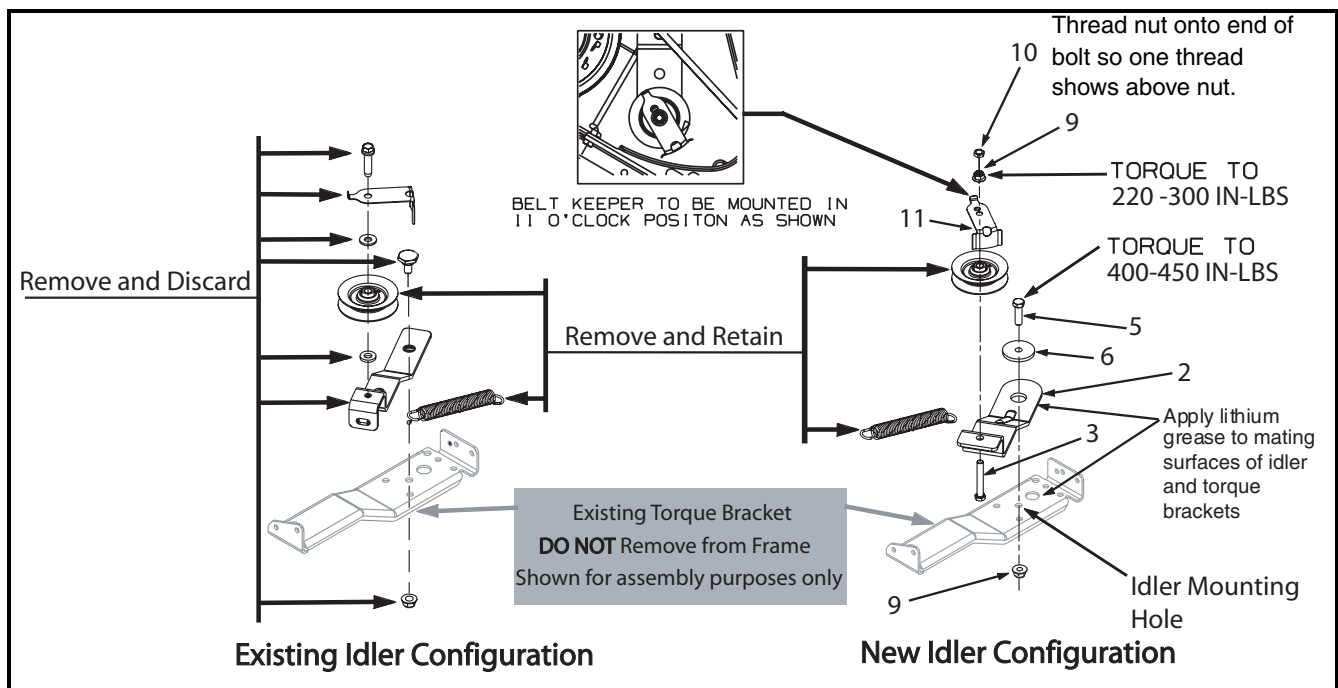

FIGURE 2
12. Inspect the existing idler bracket configuration. Referring to Figure 2, if the existing idler bracket is similar to that shown in the **Existing Idler Configuration**, proceed to Step 13.
14. Refer to Figure 2. Following the instructions within Figure 2, re-configure the upper transmission drive belt idler assembly as shown by the New Idler Configuration using the new hardware supplied and that retained as instructed.